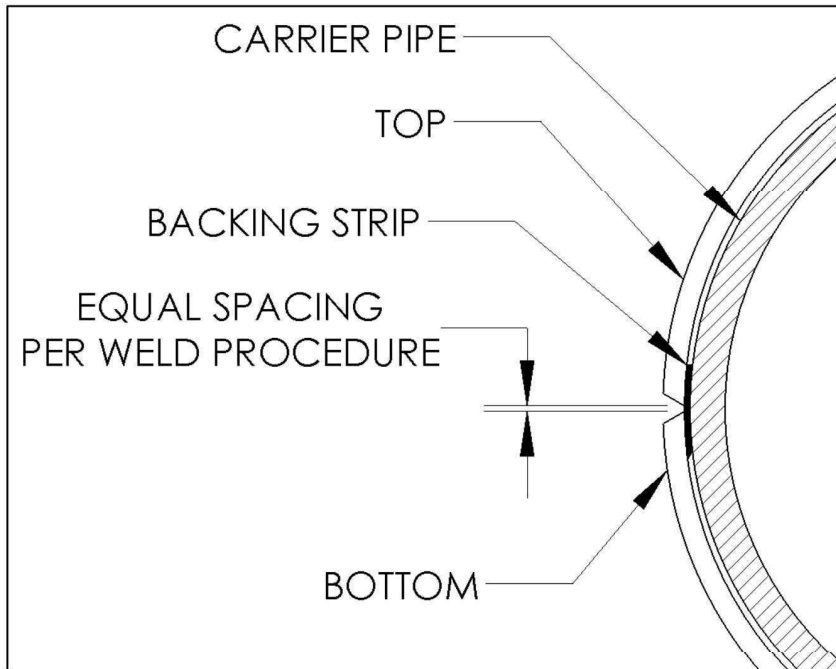
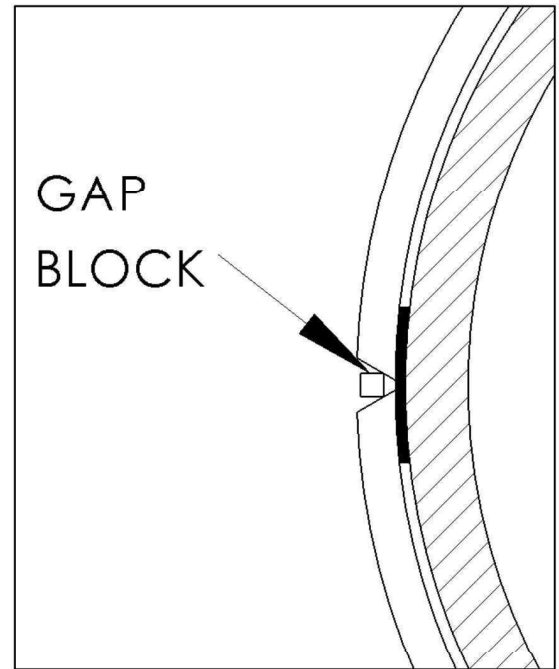

Figure 7
Figure 8
7. Align the top half to the bottom half maintaining an equal gap on both sides of the sleeve while the sleeve halves are drawn together as shown in Figure 7. Achieve a tight and uniform fit by utilizing various ratchet straps, chain clamps with jackscrew, or hydraulic rams. Gap blocks or shims, as shown in Figure 8 can be used to help maintain an equal longitudinal weld gap while the fitting is pulled together. These must be removed prior to completing welding.